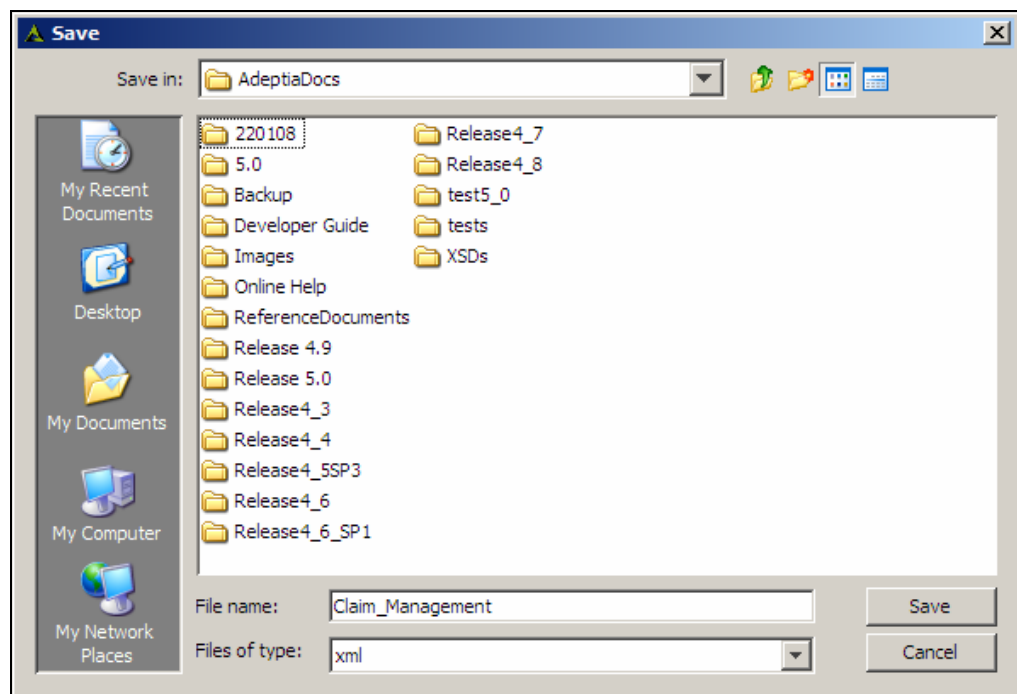

Figure 7.20: Save Process Model
1. Click **File** menu and select **Save Process Model Locally** option. The Save window is displayed (see Figure 7.20).